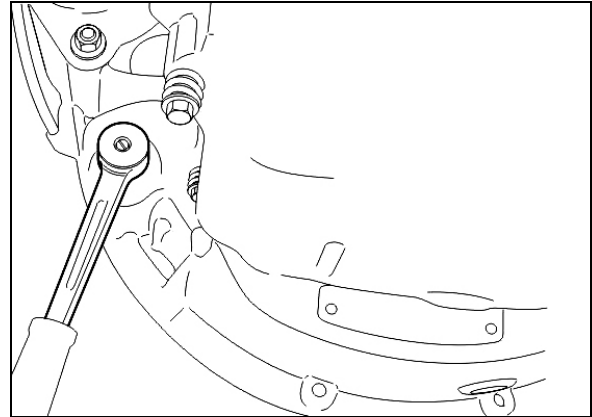

FIGURE 11: VOLVO ENGINE CRANKING POSITION
to unfasten the 12 converter-to-flexible plate attaching screws. Remove the plug located below starter motor and install cranking tool (88800014). Cranking the engine to gain access to the attaching screws may be done by turning the cranking tool using a suitable adapter (fig. 11).
*Remove the plug located below starter motor and install cranking tool (88800014). Crank the engine to gain access to the threaded holes by turning the cranking tool using a suitable adapter (Refer to fig. 11).*